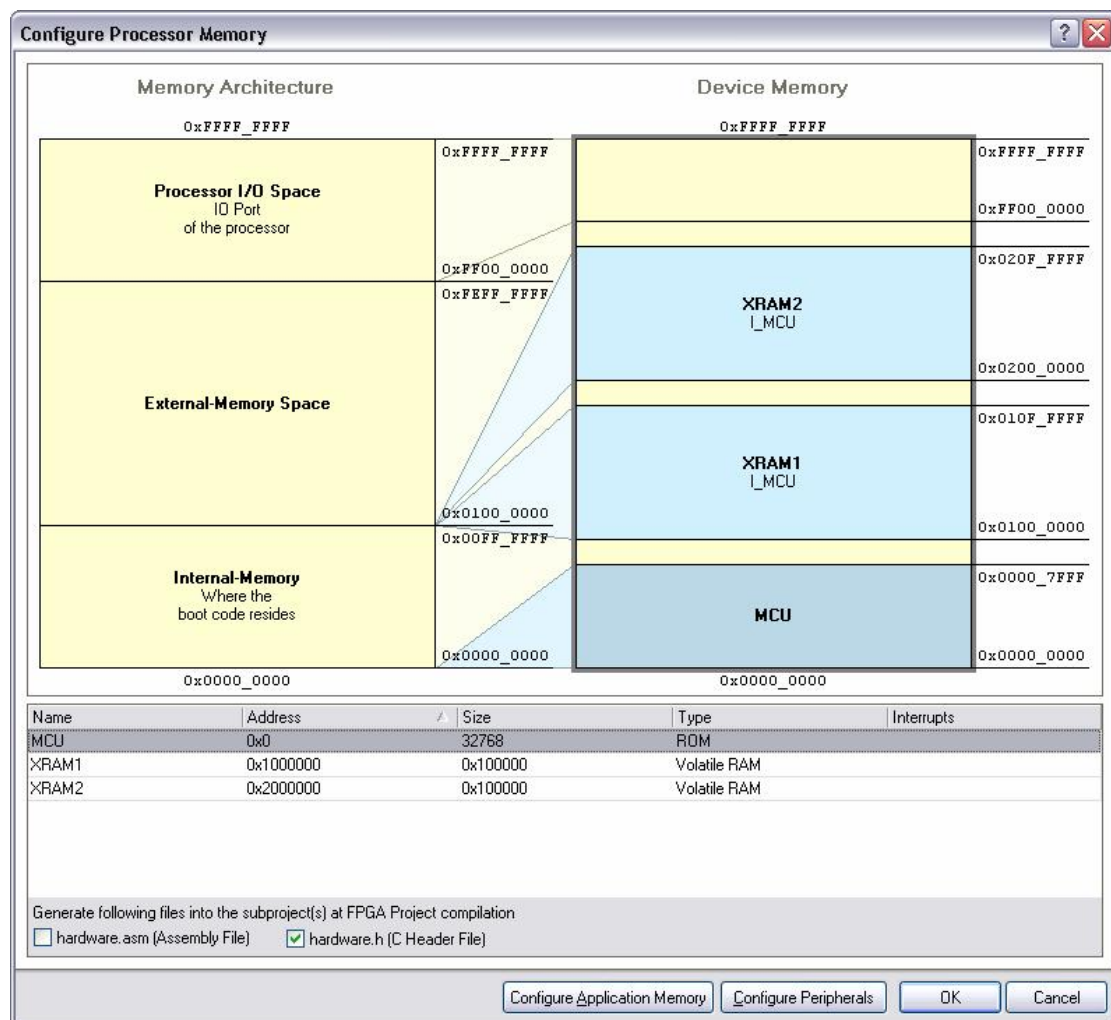

Figure 89. Configuring the processor memory
2. Ensure that the **hardware.H (C Header File)** checkbox is checked and ensure that the memory configuration above appears as it does in Figure 89.